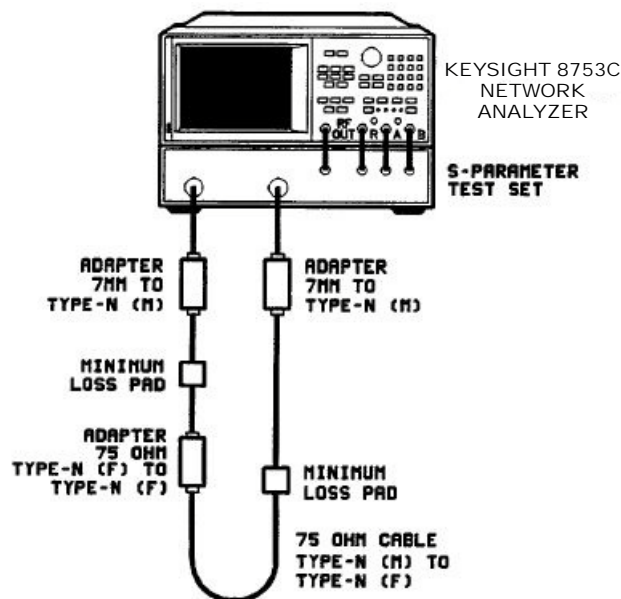

Figure 3-1 Equipment setup for a thru measurement calibration
- 1 Connect the equipment as shown in Figure 3-1.